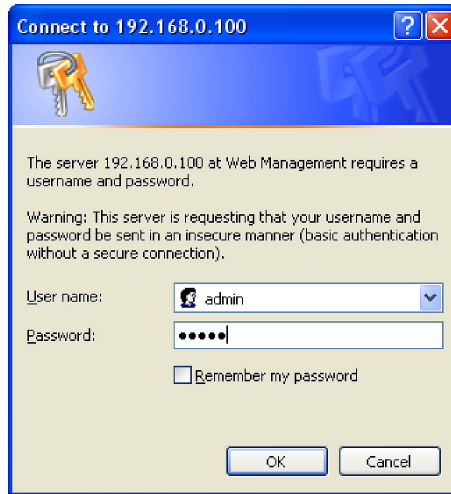

Figure 7-2: Login Screen
- When the following dialog box appears, please enter the default username and password "admin" (or the password you have changed via console). The login screen in Figure 7-2 appears.